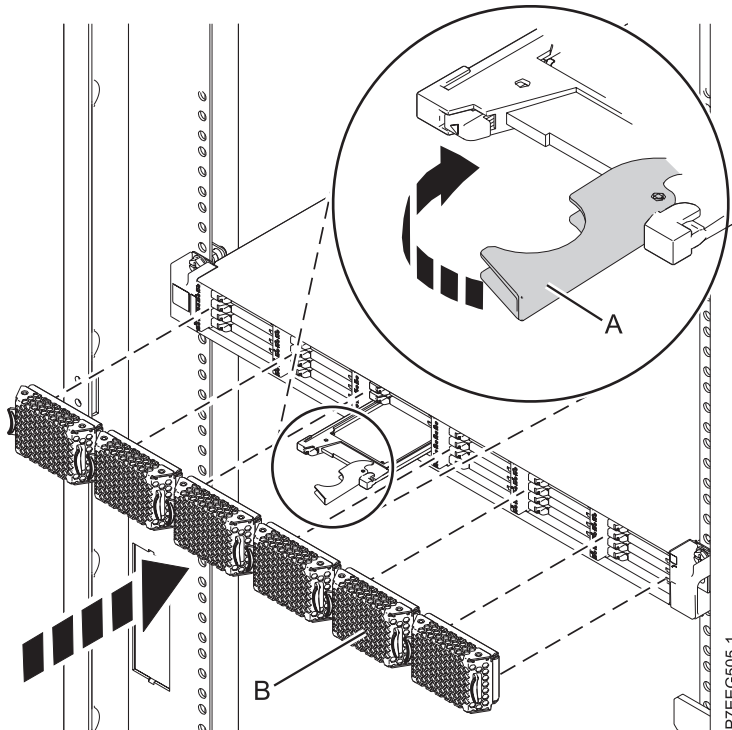

Figure 15. Installing a solid-state drive in the EDR1 PCIe storage enclosure
1. With the handle in the unlocked position, align the solid-state drive with the guide rails in the enclosure. See Figure 15 on page 25.